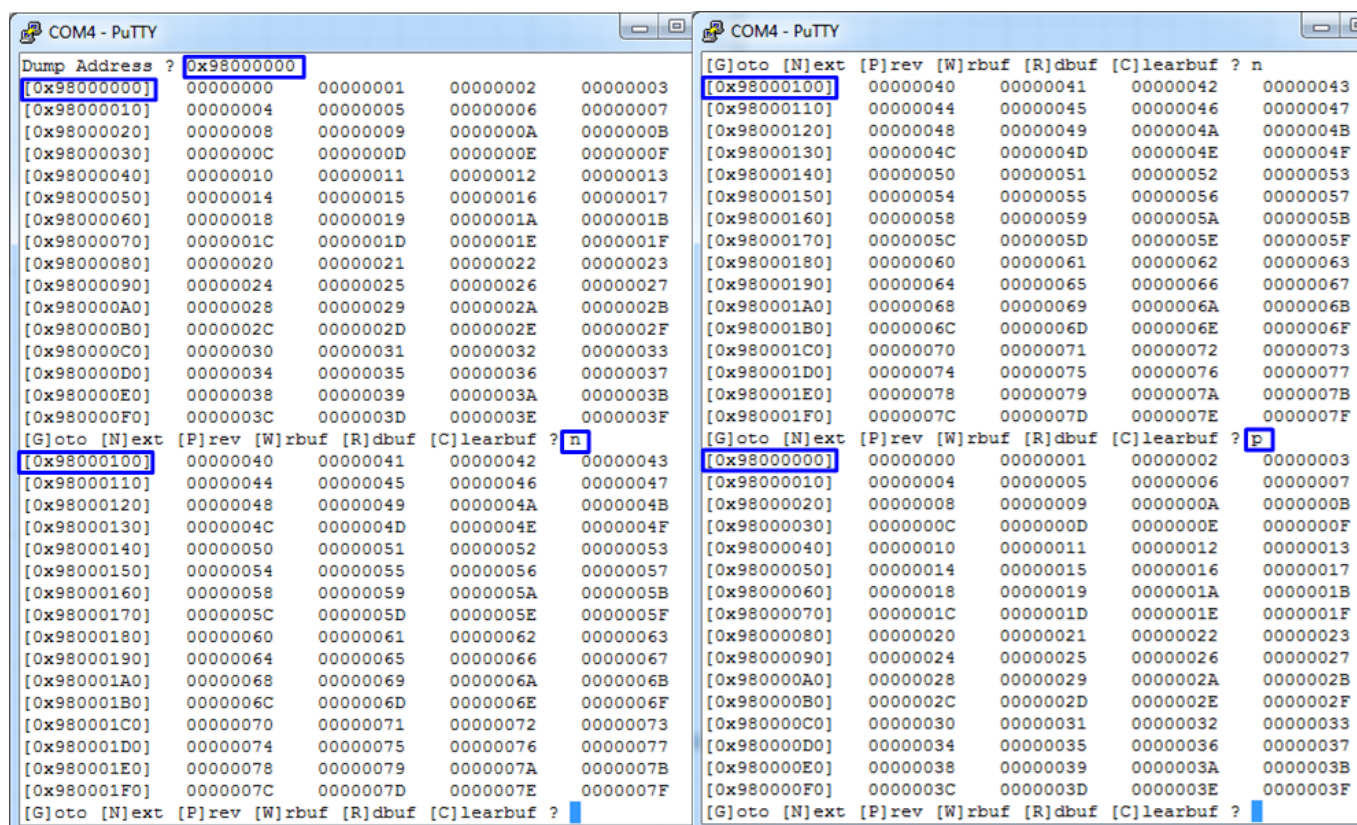

Figure 3-11 Read Next/Previous 256 byte data in buffer
- 'N': this submenu is used for reading next 256 byte data in buffer, as shown in Figure 3-11.
- 'P': this submenu is used for reading previous 256 byte data in buffer, as shown in Figure 3-11.